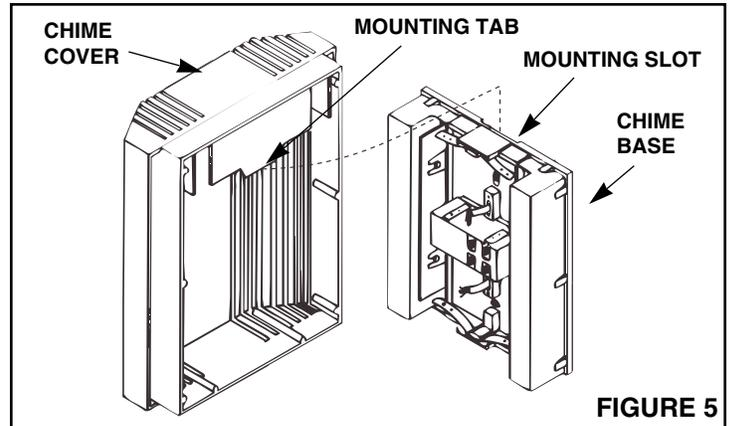

FIGURE 5
2. Refer to Figure 5. Secure cover by placing mounting tab into slot at back of base.